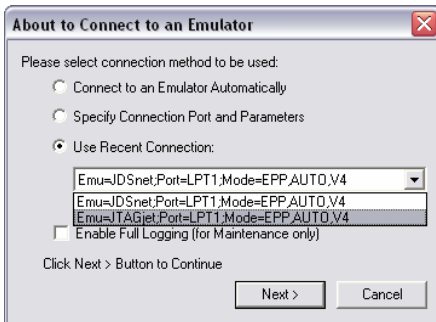

FIGURE 5 Reusing old connection parameters.
- **The Use Recent connection method** is designed to reconnect the computer with the emulator using the settings of one of the earlier successful connections (Figure 5).